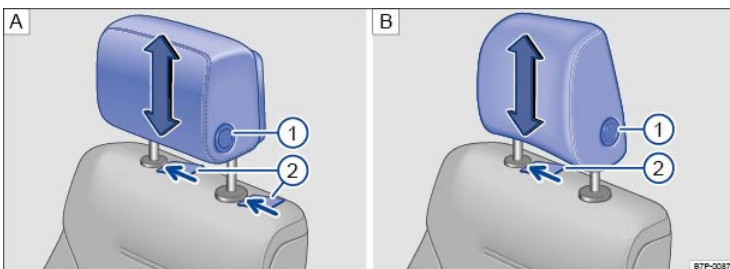

Fig. 42 Removing the front head restraints: Version and .
- Slide a flat object, such as a plastic credit card, underneath the right side of the cap on the right-hand seat guide rod ⇒ Fig. 42② to unlock the head restraint.
- To release the left-hand guide rod, press button ⇒ Fig. 42① in (towards guide rod) and hold.
- Pull the head restraint out completely while holding button ⇒ Fig. 42①.
- Push the head restraint down while pressing button ⇒ Fig. 42①.